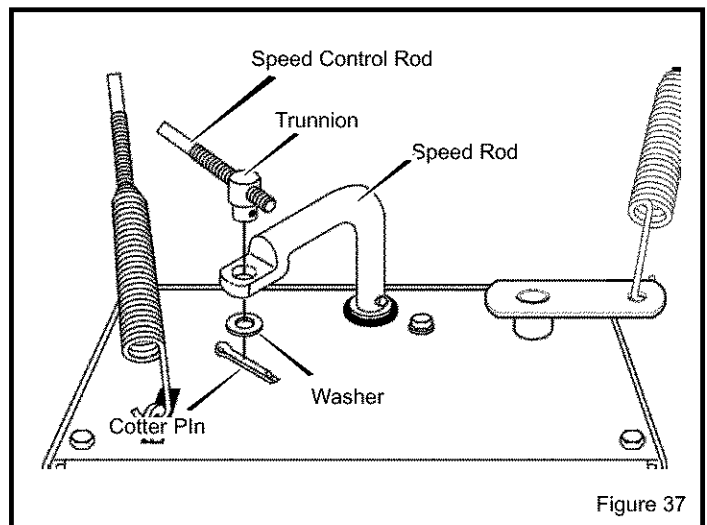

Figure 37
1. Remove washer and cotter pin connecting trunnion nut to speed rod (Figure 37).
4. Disconnect speed control rod from speed rod by removing cotter pin (see Figure 37). Keep trunnion in same position on speed control rod. Movement of the trunnion will result in speed changes.